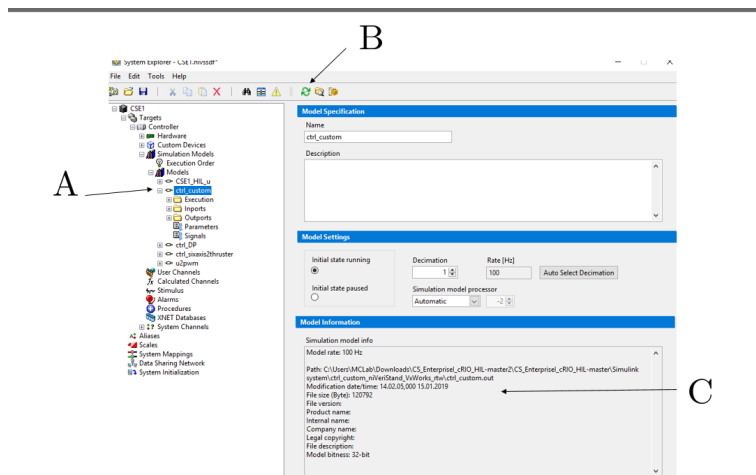

Figure 9
- Before deploying you newly compiled block, you need to update the Veristand project as follows (See Figure 9). A) Locate `ctrl_custom`, B) Press Update, C) Ensure that the modification date and time has been updated to the time that you compiled your model.
- Update all Veristand model files. (See Figure 9)